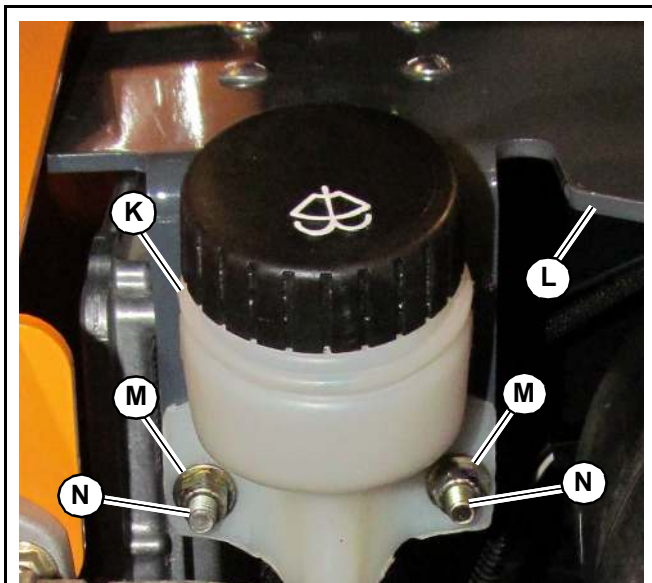

Fig. 332 – Install Washer Bottle Fill Neck
18. Connect wiring to solenoids (I and J) located on the bottom of air cleaner bracket (G).
19. Install washer bottle filler neck (K, Fig. 332) to air cleaner plate (L) and secure using two locknuts (M) and two carriage bolts (N).